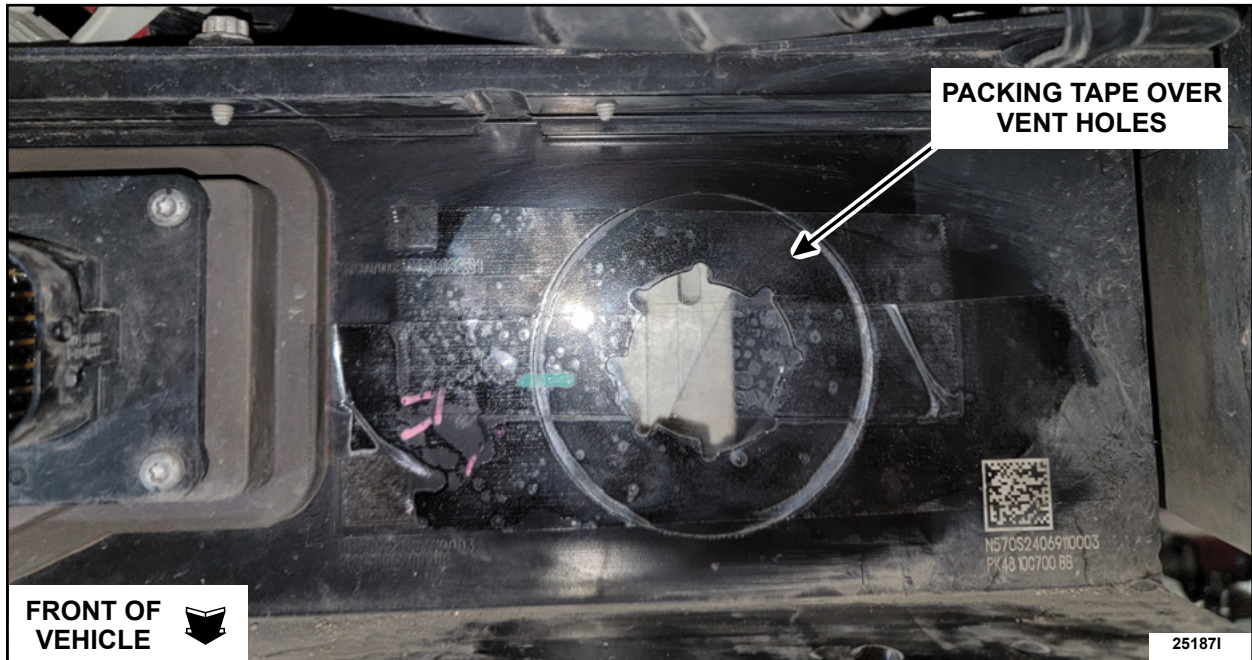

FIGURE 8
11. Seal the vent valve holes by overlapping heavy duty clear packaging tape completely covering the openings. See Figure 8.